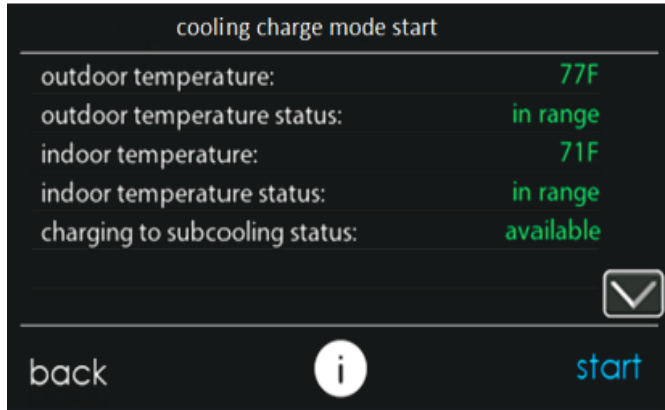
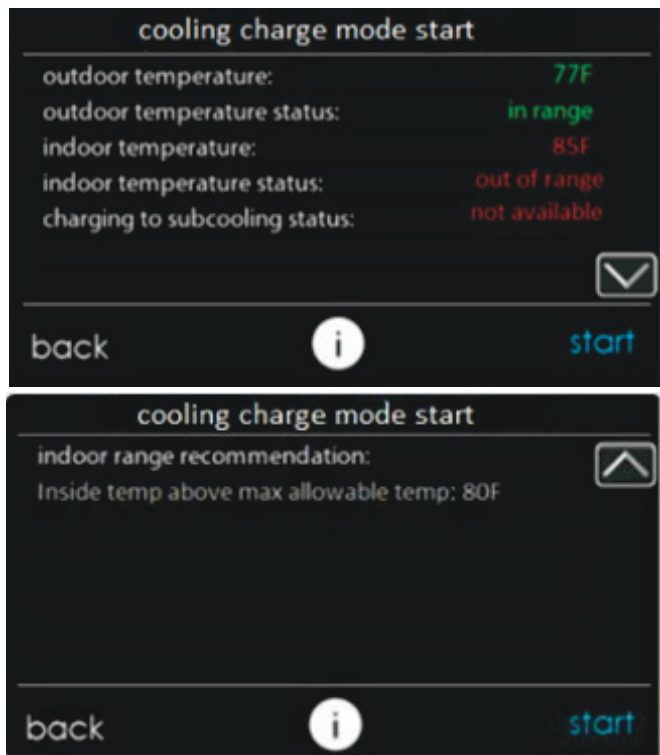

Fig. 18 – Cooling Charge Mode Start Screen - Subcooling Available A240373
Fig. 19 – Cooling Charge Mode Start Screen - Subcooling Unavailable A240385
- The next screen, “cooling charge mode start” is shown in Fig. 18 or Fig. 19 depending on whether subcooling charging is available. The reason for unavailability of subcooling can be viewed by pressing the down arrow to go to the second page. Before selecting “Start”, verify that the service valves are open. Pressing start will turn on the system at a fixed set of operating parameters in COOLING mode.